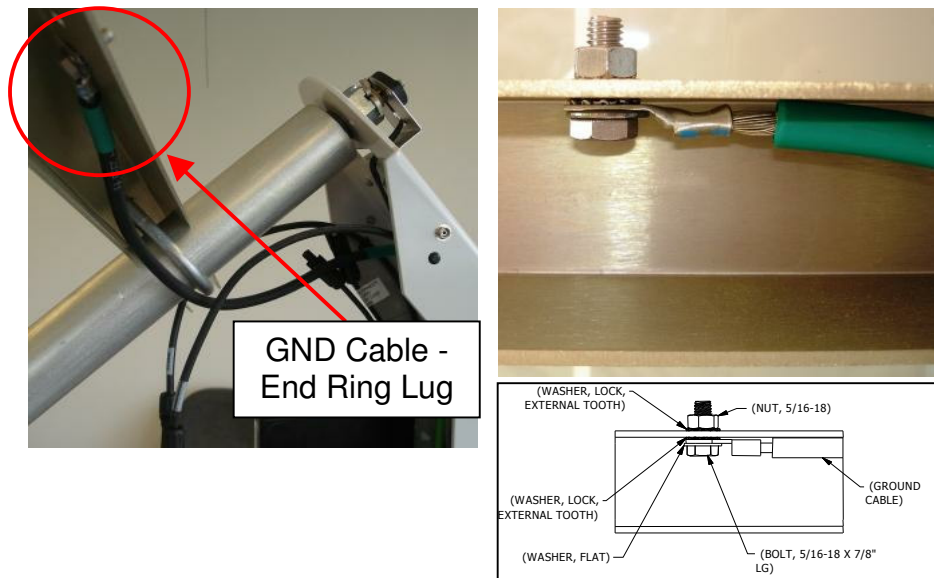

Figure 13
2. Connect the end ring lug on the Ground Cable (#6 AWG) to the Upper Solar Panel Channel as shown in Figure 13.